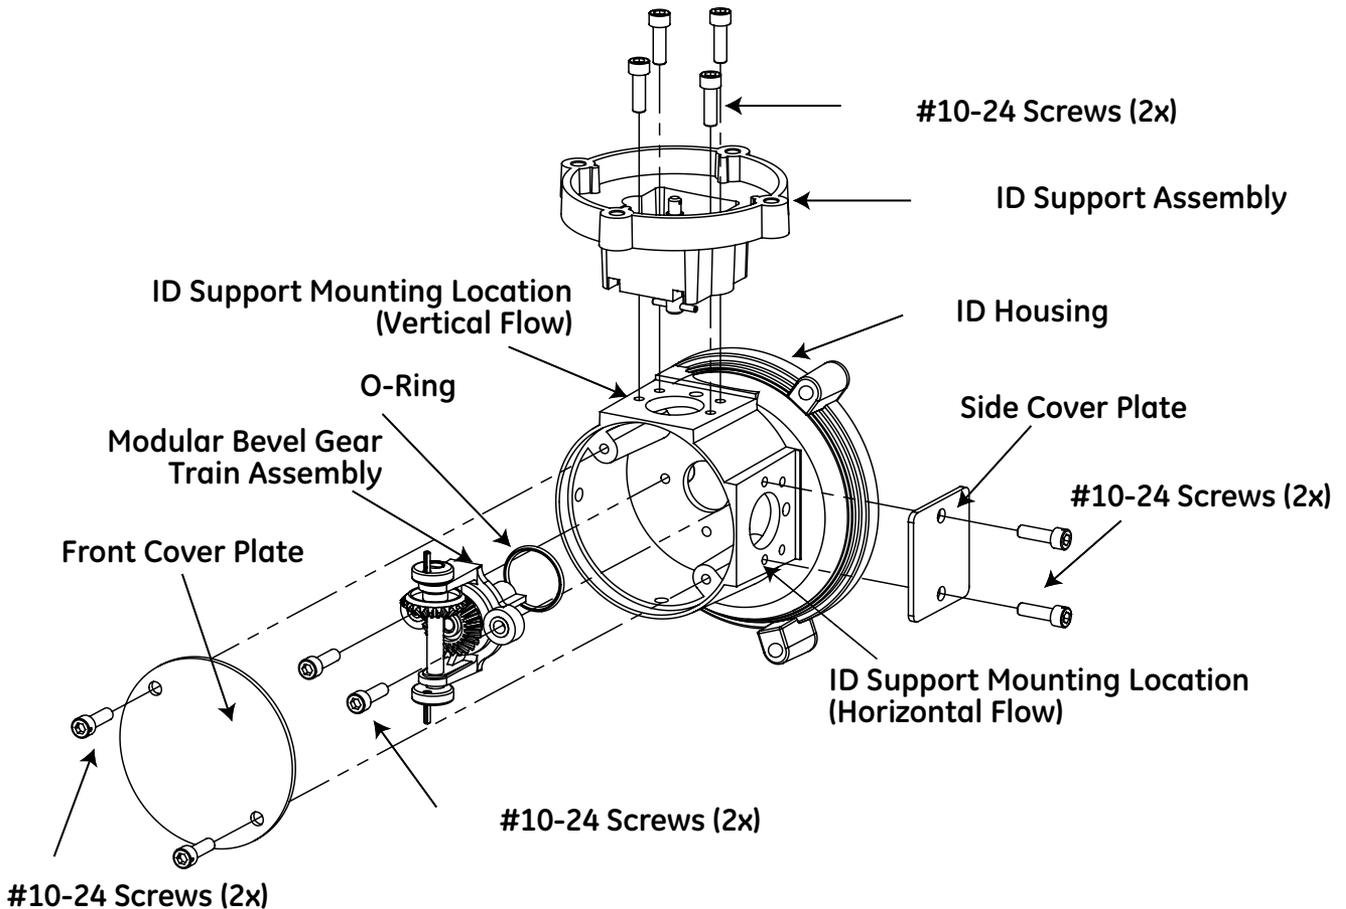

Figure 13 - Exploded View of Instrument Drive (ID) Assembly
The following procedures are required to change the orientation of the instrument drive assembly. Refer to Figures 13 and 14 for component locations.
1. Using a 5/32" hex wrench, remove the two #10-24 screws holding the Front Cover Plate onto the aluminum ID housing. Remove the cover plate. (Refer to Figure 13 for component identification.)